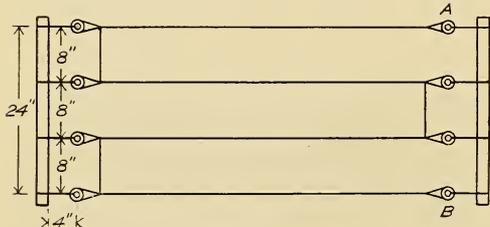
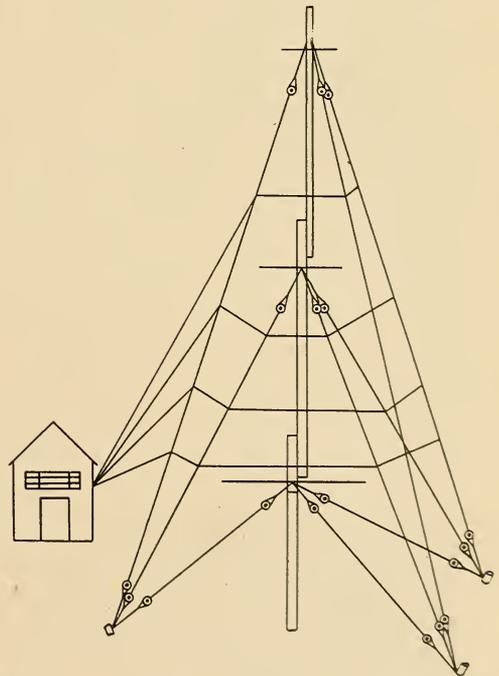

FIG. 23.
FIG. 28.
shown in Fig. 23, making the end connections around the knobs and other connections as shown. For the lead-in to the instruments No. 14 weatherproof wire is used, soldered on at (AB) Fig. 23. The lead-in should be made as clear as possible, that is, avoid the use of numerous insulators, as each tends to dissipate a certain amount of the high tension current which affects the efficiency of the sending. Where the wires lead in through the wall to the set, tape the wire well and pass through a thick porcelain
The guy wires for supporting the masts can also be utilized for the aerial spread, this plan being usually adopted for long distance work. In this case the mast and ground are insulated from the guy wires by interposing porcelain knobs near the stub and mast. Insulating knobs are inserted the same as for the aerial spread shown in Fig. 23. Connecting wires are run to the various parts of the guys and back to the operating room as shown in Fig. 28.